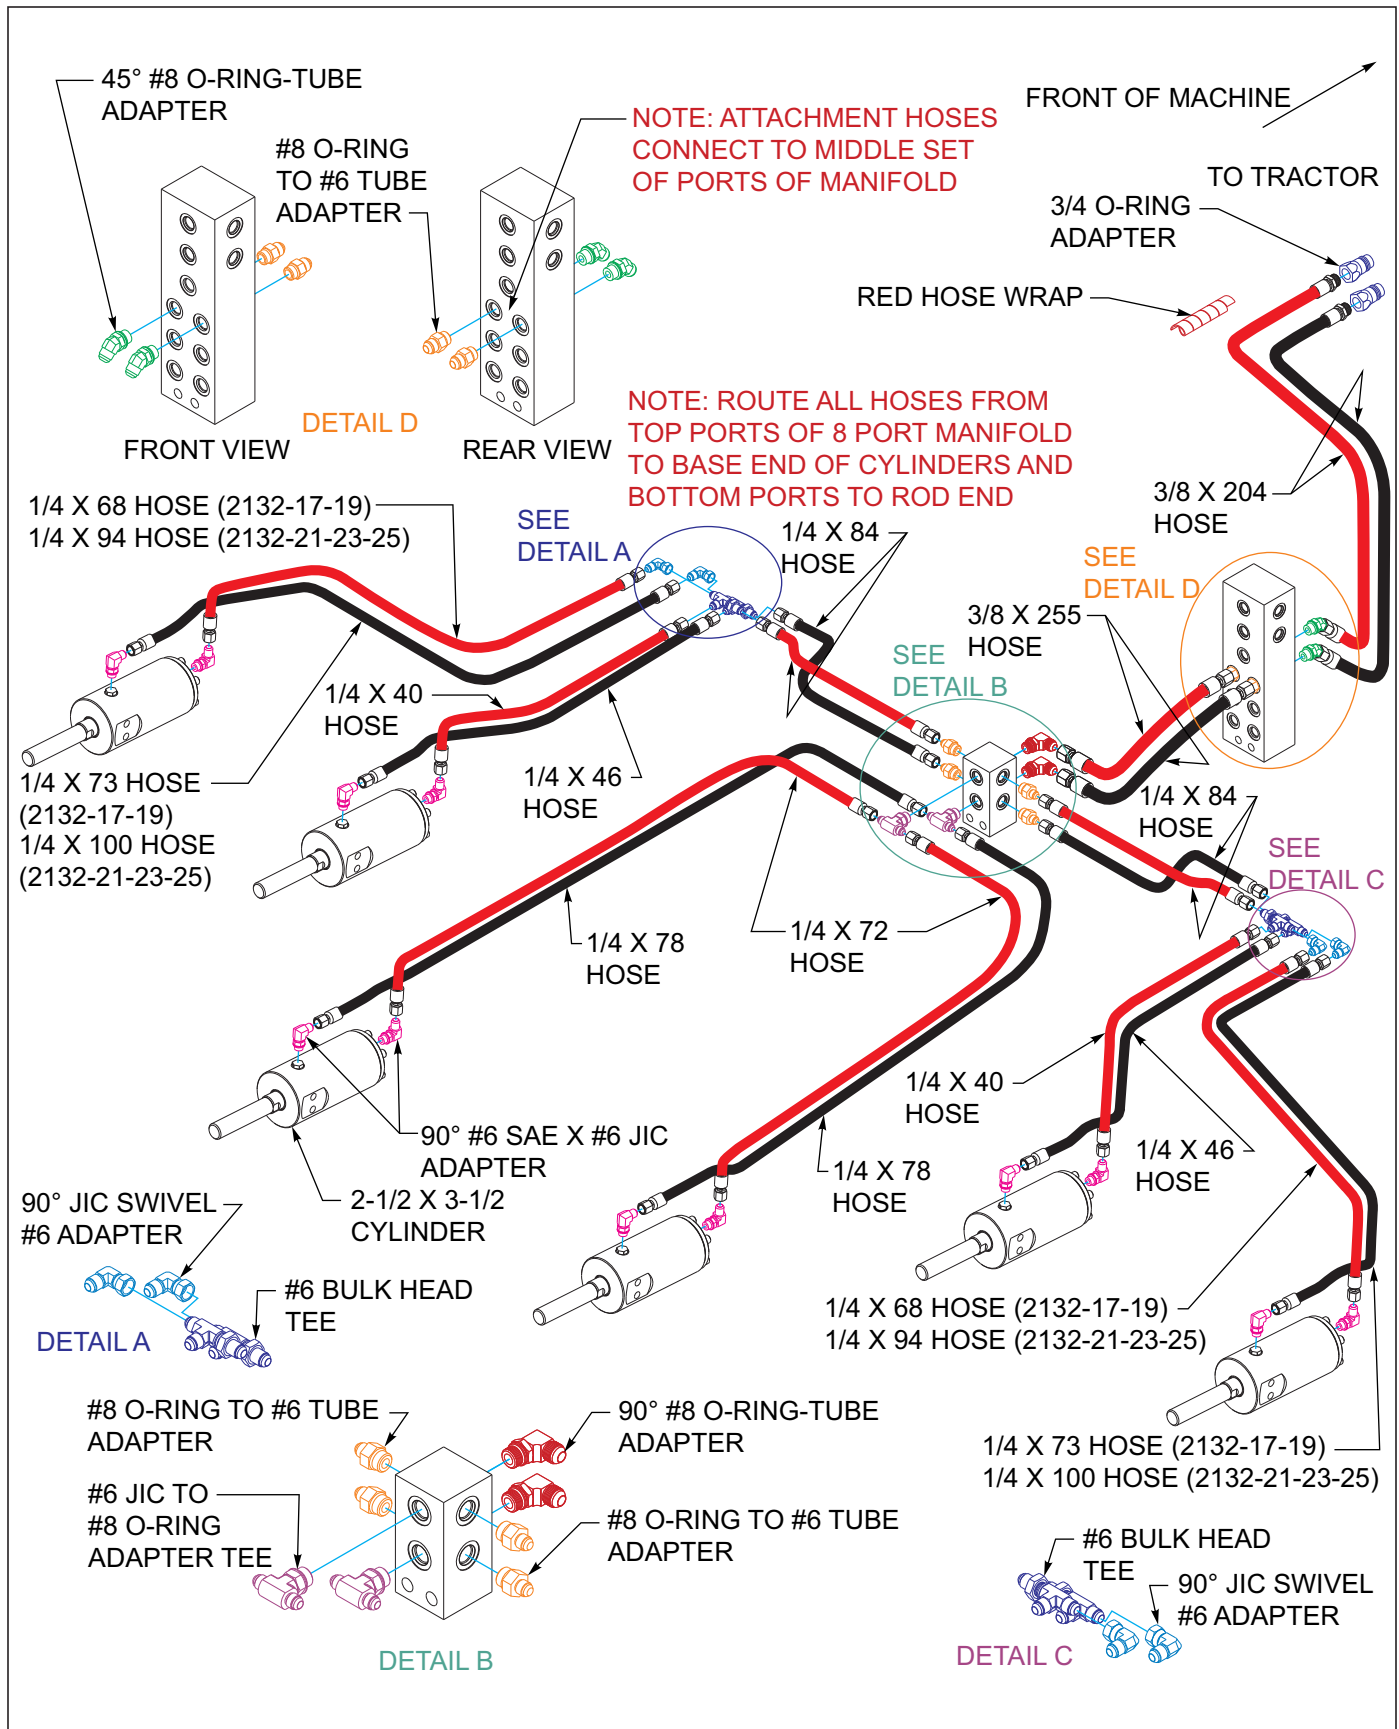
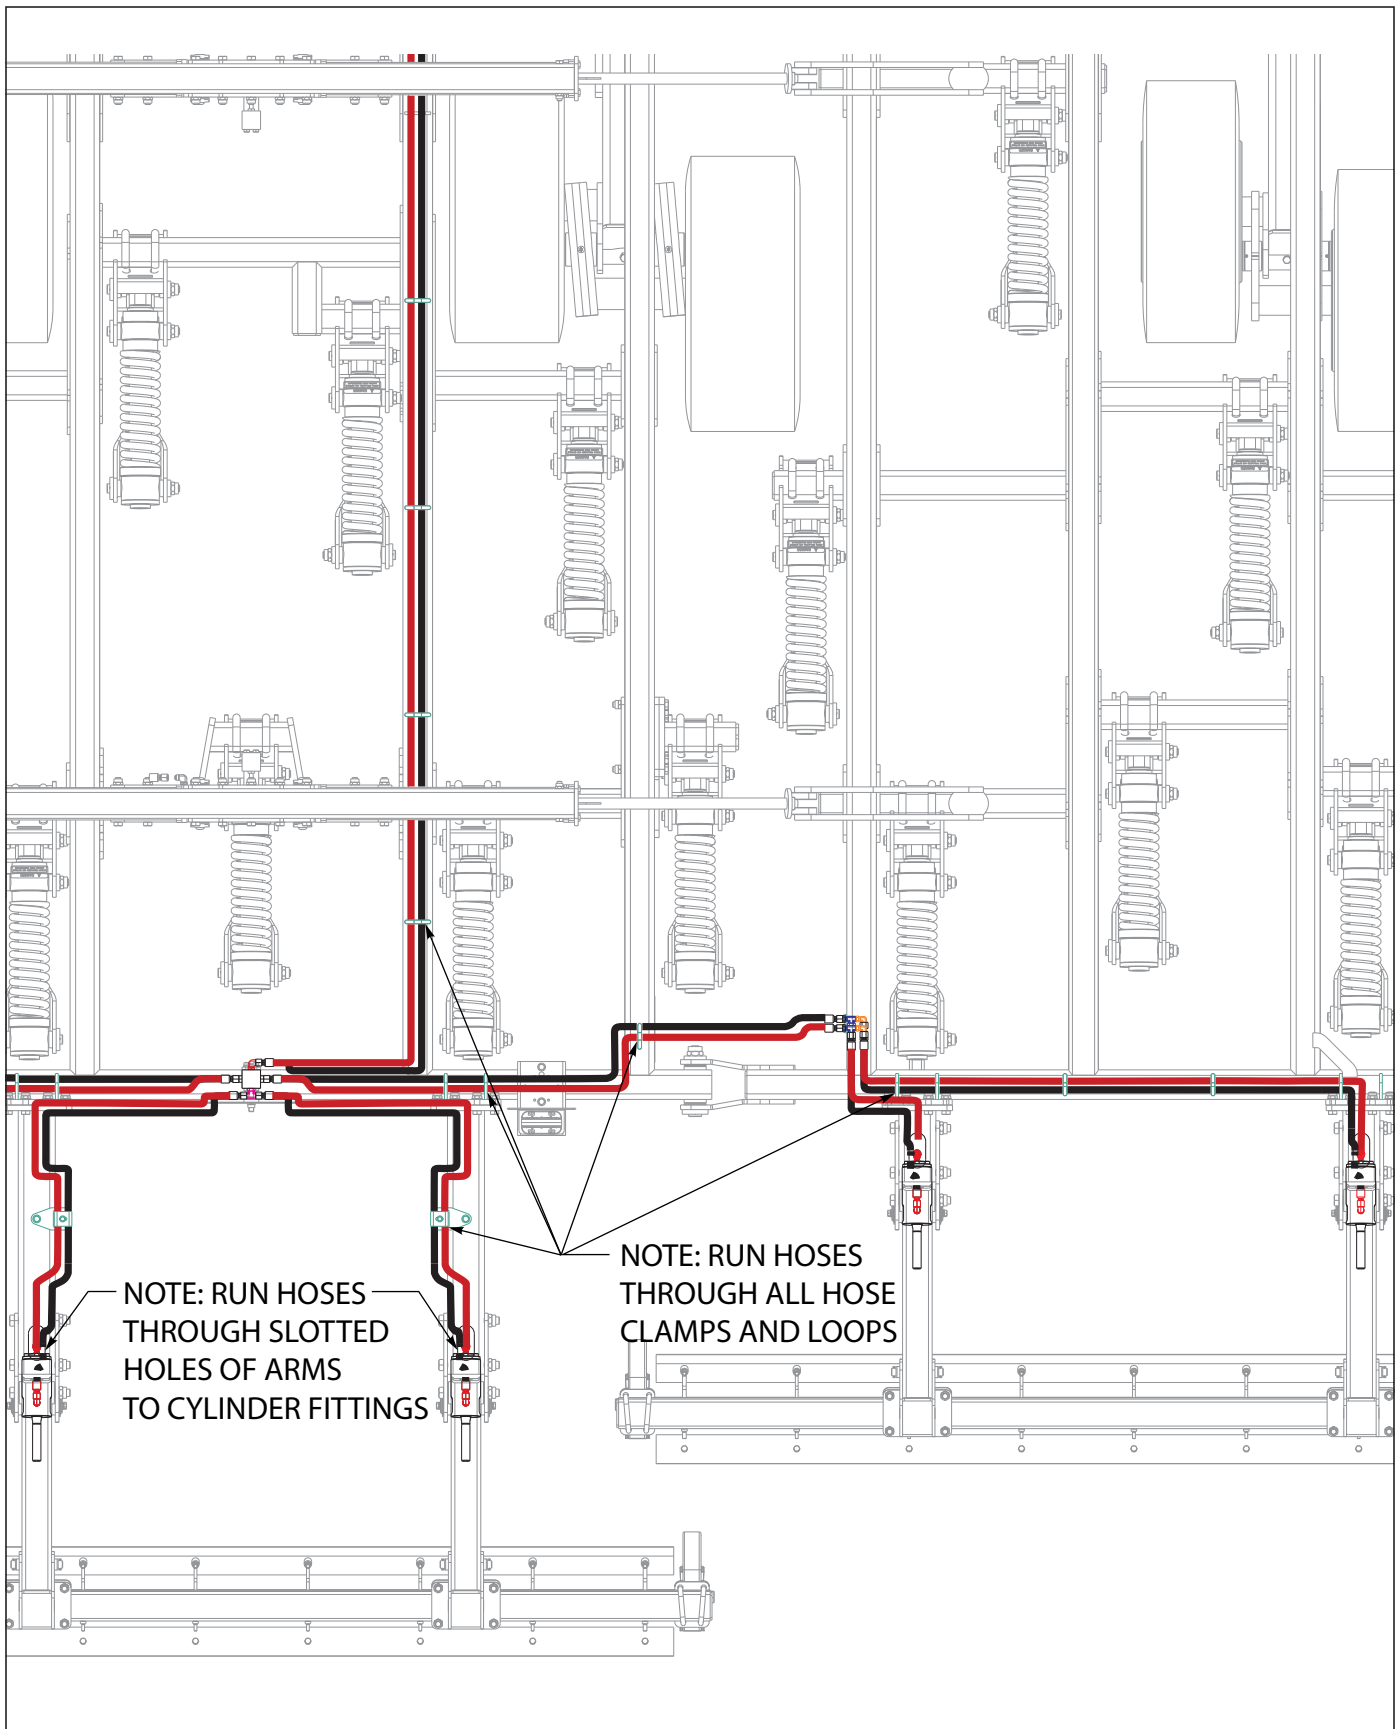

Figure 3-35: Chopper Hydraulic Installation
Figure 3-37: Chopper Hydraulic Layout RH
8. On hydraulic Chopper Reel option, See Figures 3-35 through See Figures 3-37 for proper hydraulic installation.